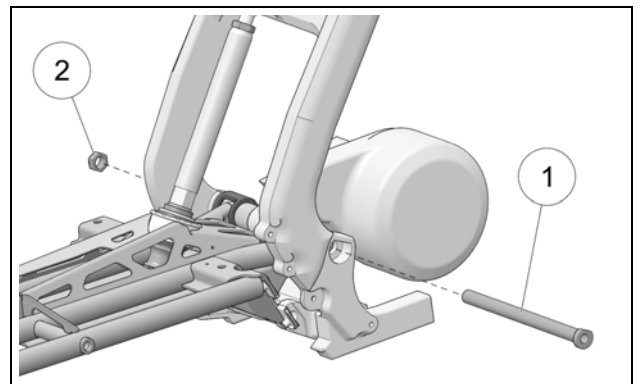

Figure 23
- Insert swingarm axle (1) through frame and System's T-Bushings. Install Axle Nut (2) and hand tighten temporarily. See Figure 23.